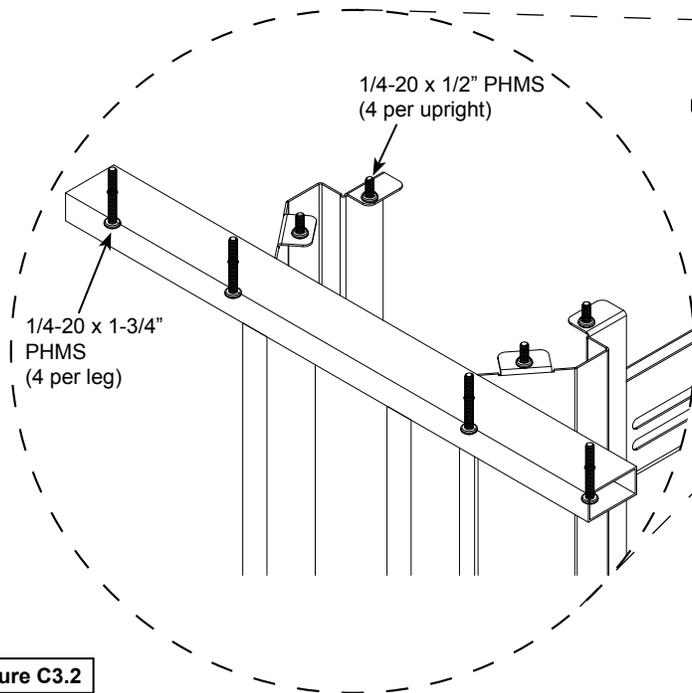

Figure C3.2
3. Install (4) 1/4-20 x 40mm JC bolts through each leg to secure the worksurface. **Figure C3.2.**
4. Install (4) 1/4-20 x 5/8" PHM screws through each upright to secure the worksurface.